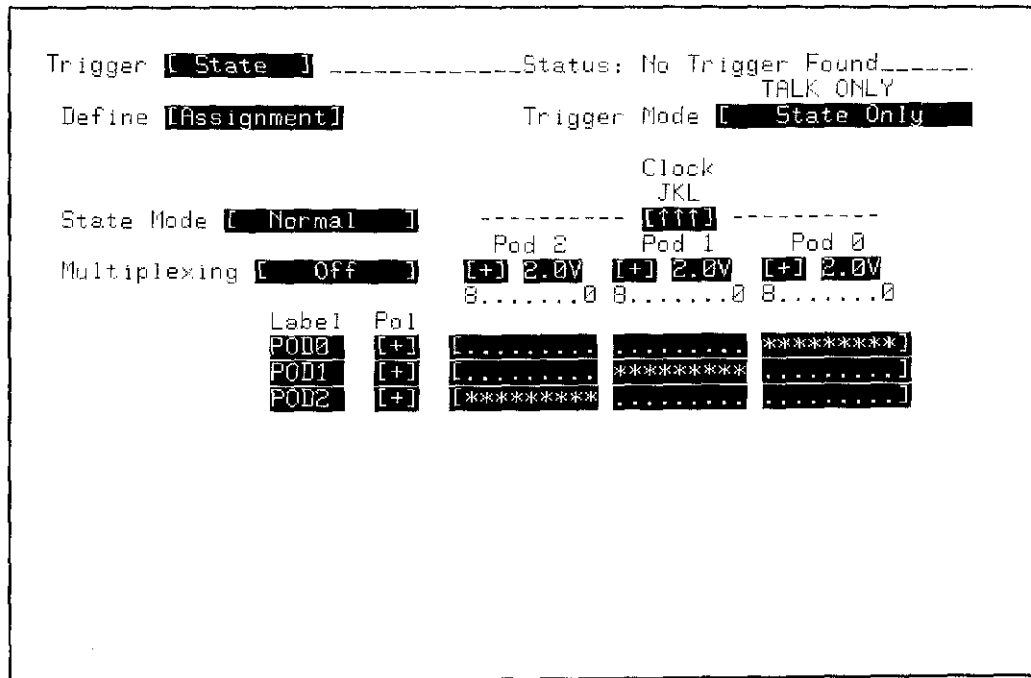

Figure 3-30. TRIGGER State / Define [Assignment] Menu
4. Configure the TRIGGER State / Define [Assignment] menu as shown in figure 3-30.
21. In the TRIGGER State / Define [Assignment] menu (figure 3-30), change the J, K, and L clocks to the falling ( $\downarrow$ ) edge.